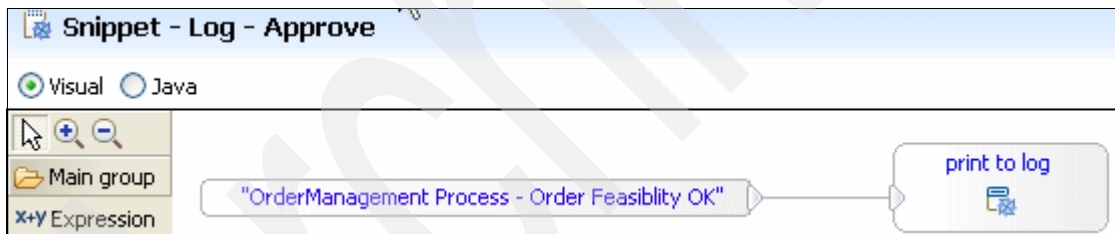

Figure 3-40 Log - Approve details
2. Add a snippet to the Parallel Activities structure and name it Log - Approve. Use the same techniques described in "Adding activities for logging" on page 80 to build the snippet as shown in Figure 3-40.